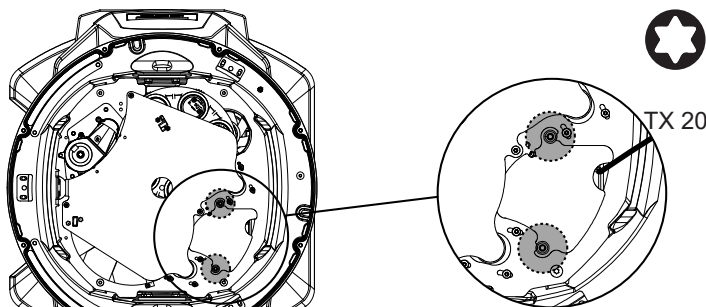

Figure 16
5. To release the front ring from the head, remove the small plate surrounding the front ring's cable (figure 16) by loosening the 2 screws, and disconnect the two wires by pressing the connectors' clip.